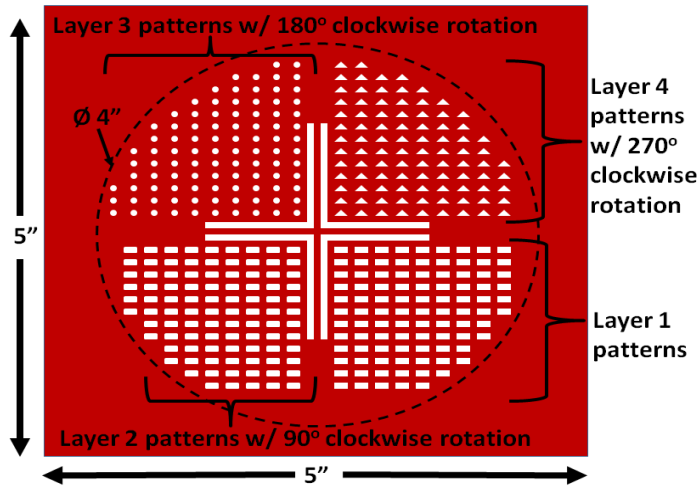

Figure 8 Mask layout illustrating rotation of the layers.
- b) To accomplish this, when laying out the mask, layer 2 is positioned in the lower left quadrant of the mask with a 90 degree clockwise rotation with respect to layer 1 (**Figure 8**).
- d) The same mask layout design for layer 3 and 4 are shown below in **Figure 8**.
- a) Have alignment marks that provide coarse and fine alignment. (For ex, see: **Figure 8**)